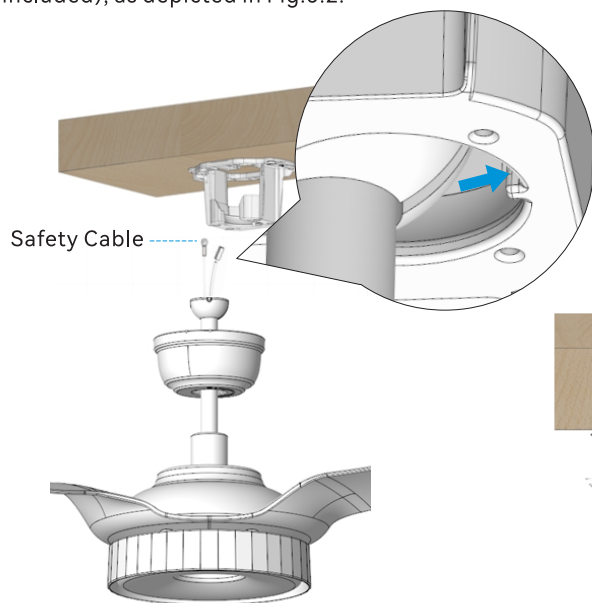

Fig. 5.1
5.1 Install the ball end of the downrod into the opening of the mounting bracket. Rotate the downrod until the tab on the mounting bracket is securely seated in the slot in the downrod ball, as shown in the enlarged image in Fig. 5.1.